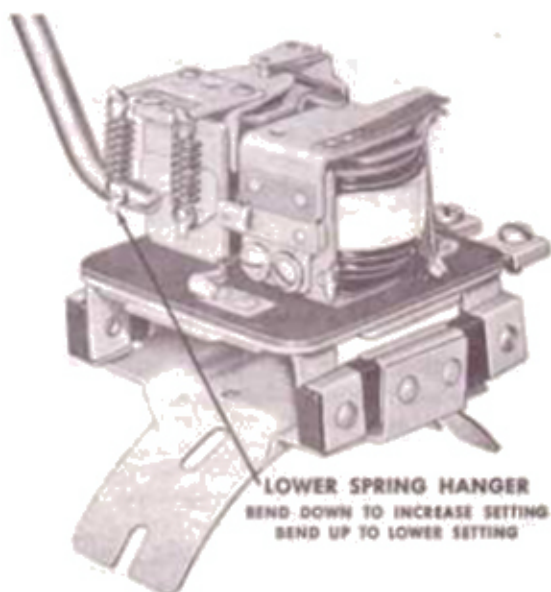

Figure 15—Adjusting voltage setting of current-voltage regulator unit (1118200 series).
**VOLTAGE SETTING (1118200 Series)**—Check voltage setting as described under Regulator Electrical Checks. Adjust by bending the lower spring hanger of one spring (Fig. 15). Bend down to increase the voltage setting, or bend up to lower the setting. After each adjustment, set cover in place before checking setting. Confine adjustment to one spring only. If the unit is badly out of adjustment, refer to section headed Regulator Spring Replacement.